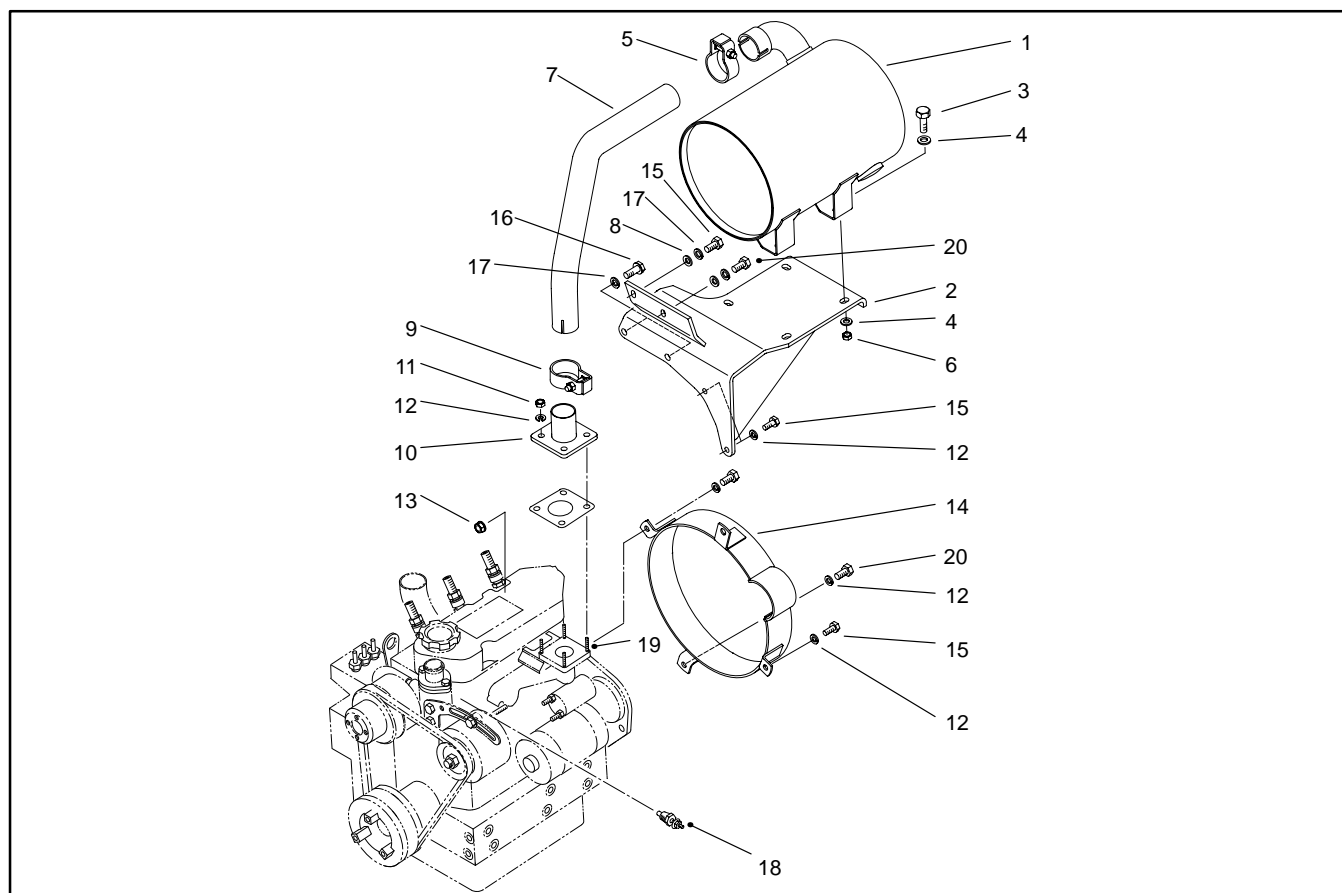

Figure 18
2. Remove muffler and/or muffler bracket from the engine as necessary using Figure 18 as a guide.
2. Install muffler and/or muffler bracket to the engine using Figure 18 as a guide. Replace gasket if damaged or torn.